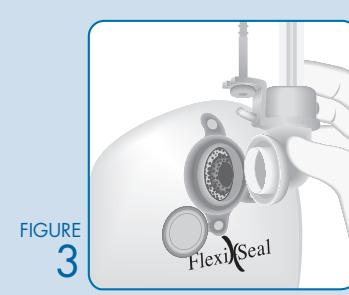

FIGURE 3
- Securely attach the collection bag to the connector at the end of the catheter. (Figure 3)